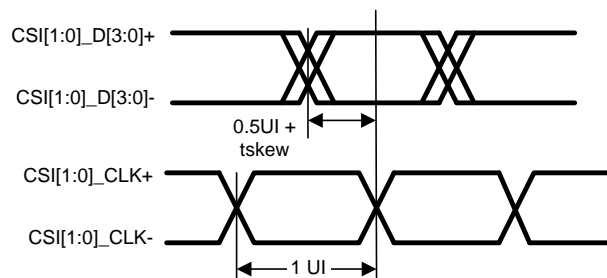

Figure 10. Clock and Data Timing in HS Transmission
DATA-CLOCK TIMING SPECIFICATIONS (1) (Figure 10)